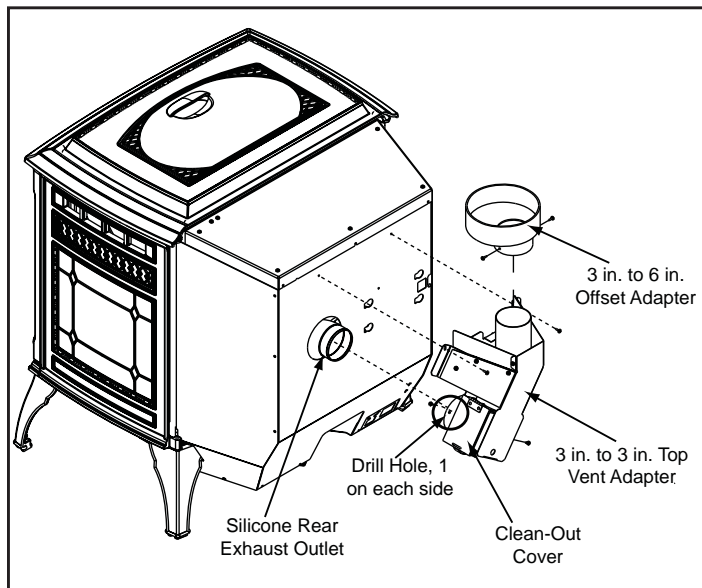

Figure 18.1
1. Put a layer of high temperature silicone on the 3 inch (76mm) exhaust outlet. **Do not put silicone inside of pipe. Figure 18.1.**
2. Slide the top vent adapter onto the rear exhaust outlet and adjust the assembly to a vertical position until the top of the flue outlet is centered and is in a level position. **Figure 18.1.**